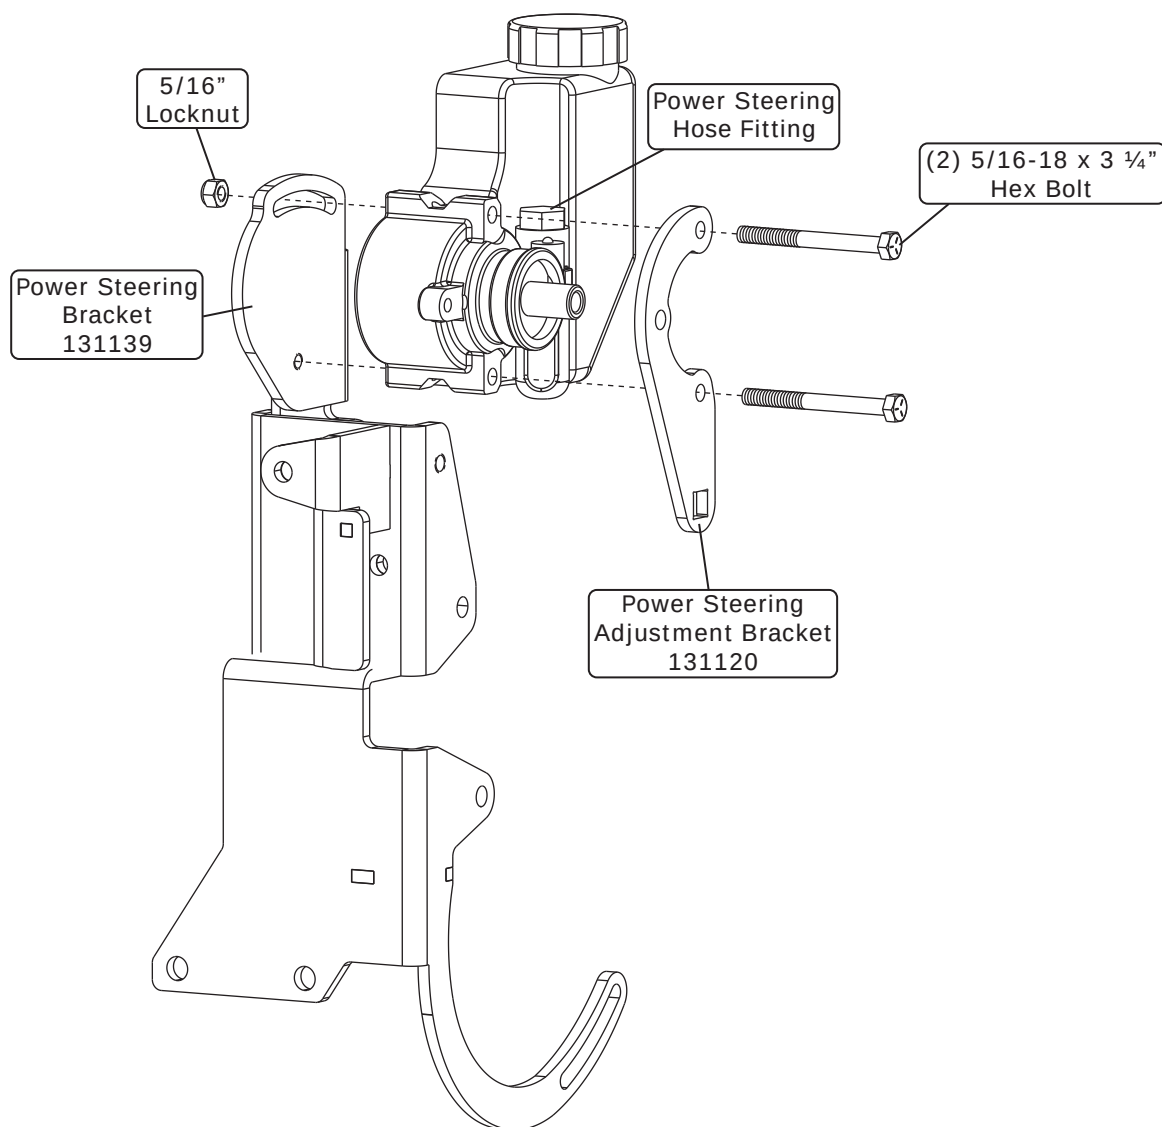

Figure 6
1. Install the hose fitting onto the power steering pump (See Figure 6, below). In order to properly tighten the fitting, Vintage Air recommends temporarily mounting the pump onto the bracket (See Figure 6, below).